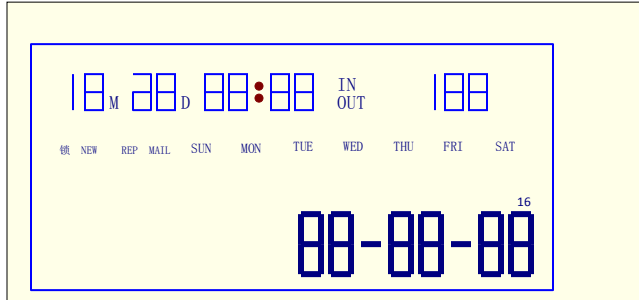

Fig 2
5. LCD show, hour, minute, second (see below fig 2)